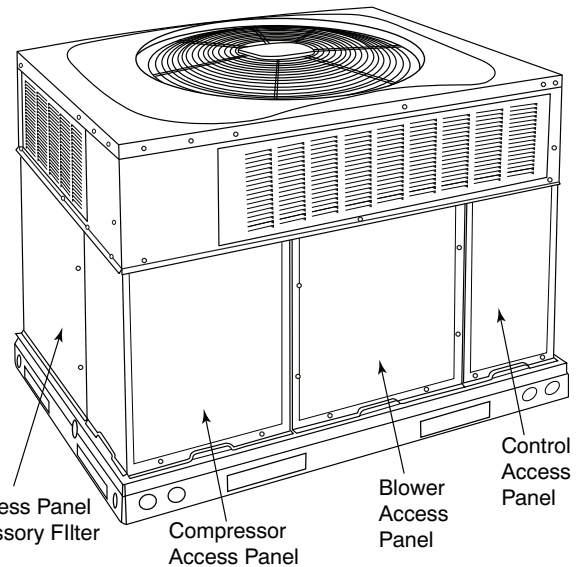
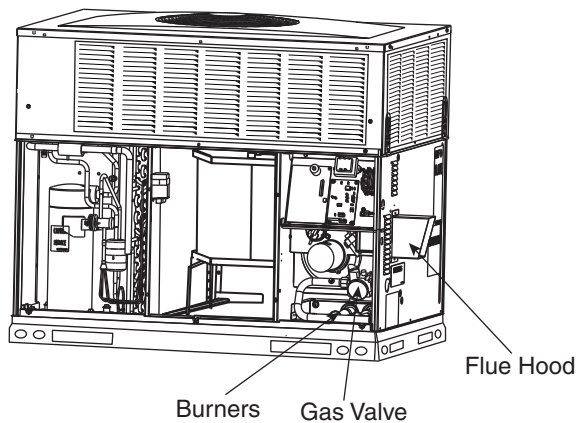

Fig. 2 – Unit Access Panel
Fig. 3 – Gas Heating/Electric Cooling Unit with Access Panel Removed ^{A14490}
Refer to Fig. 2 for location of unit front access panel. Refer to Fig. 3 for location of gas valve. Refer to Fig. 4 while proceeding with the following steps.
4. Remove the control access panel with a 5/16-in. nut driver. (See Fig. 2.)
4. Remove the control access panel. (See Fig. 2.)
To replace or inspect filters in accessory filter rack (See Fig. 2):